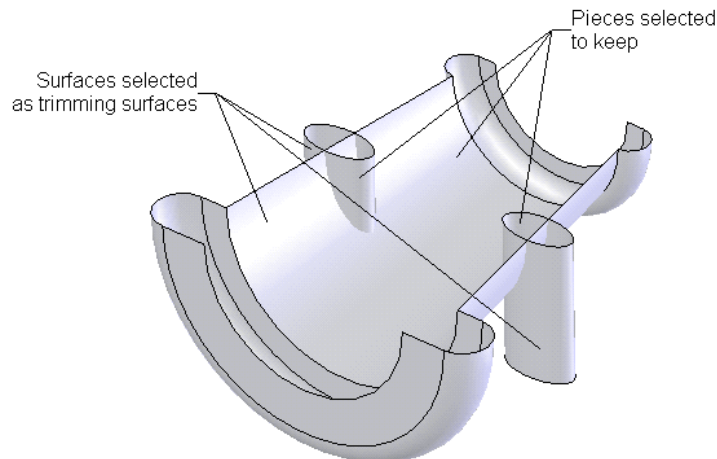

Figure 15-102 Surfaces and pieces to keep to be selected
- Using the trim tool, trim the extruded surface, refer to Figures 15-102 and 15-103.
3. Select the surfaces shown in Figure 15-102 as the trimming surfaces.
4. Now, click once in the **Pieces to Keep** display area to invoke the selection mode. Select the pieces to keep as shown in Figure 15-102.